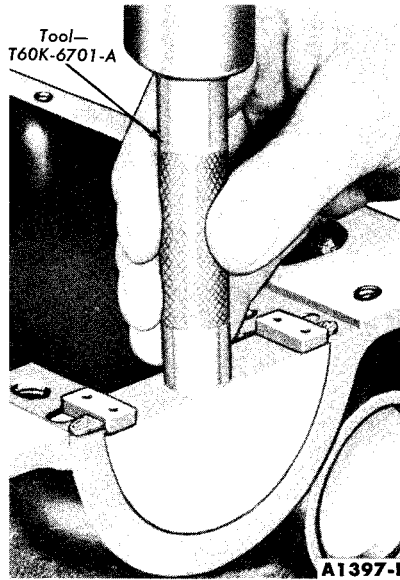

FIG. 76—Rear Oil Seal to Block Installation
4. Clean the rear journal oil seal grooves. Install a new rear journal oil seal in the block (Fig. 76) and rear main bearing cap (Fig. 56). After installation, cut the ends of the seals flush.